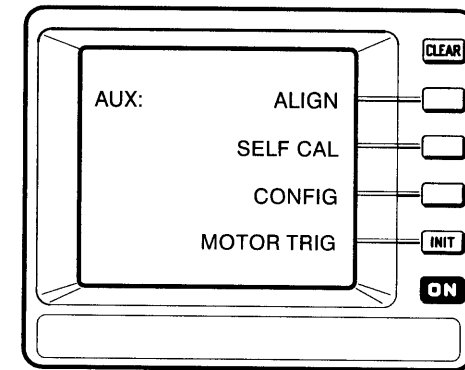

Figure 3-21: The Auxiliary Functions Menu
- Step 1:** Press the **AUX FUNCT** button on the top panel to display the auxiliary functions menu, as shown in Figure 3-21.